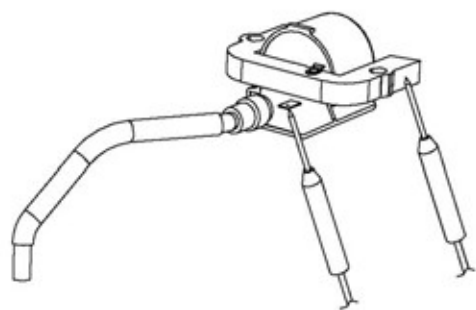

Figure 4-10: Primary Ignition Coil Test (typical)
1. See Figure 4-10. Use a caliper and measure the valve spring free length